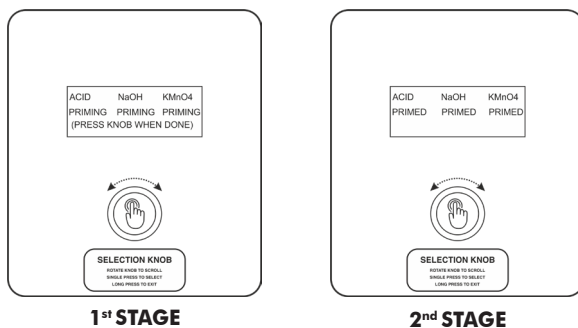

Fig. No. 22.3
• PUMP PRIMING (Ref. Fig. No. 22.3)